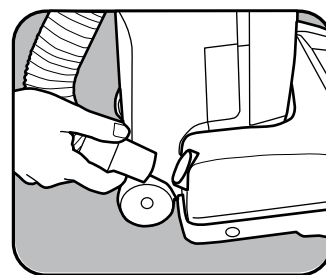

Fig. 1
1. Remove the stretch hose from the nozzle of the vacuum (Fig. 1).